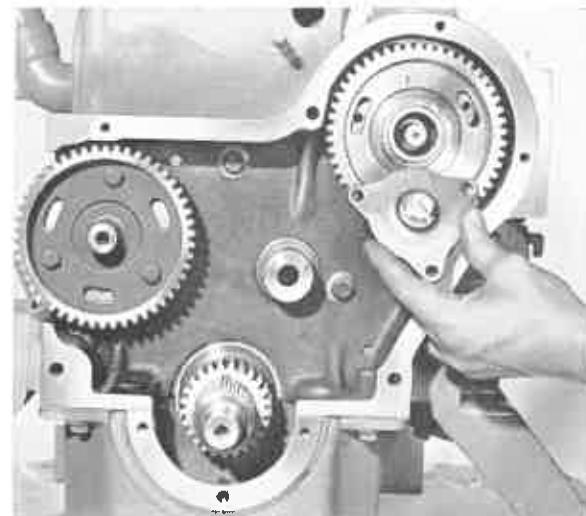

Fig. N.7. Removing Fuel Pump Gear Adaptor.
3. Remove the fuel pump gear adaptor (See Fig. N.7).